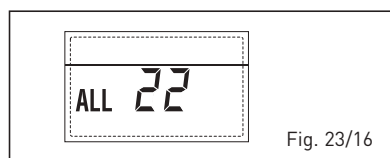

Fig. 23/16
- ANOMALIA GUASTO Sonda MANDATA SECONDA ZONA MISCELATA “ALL 23” (fig. 23/17)